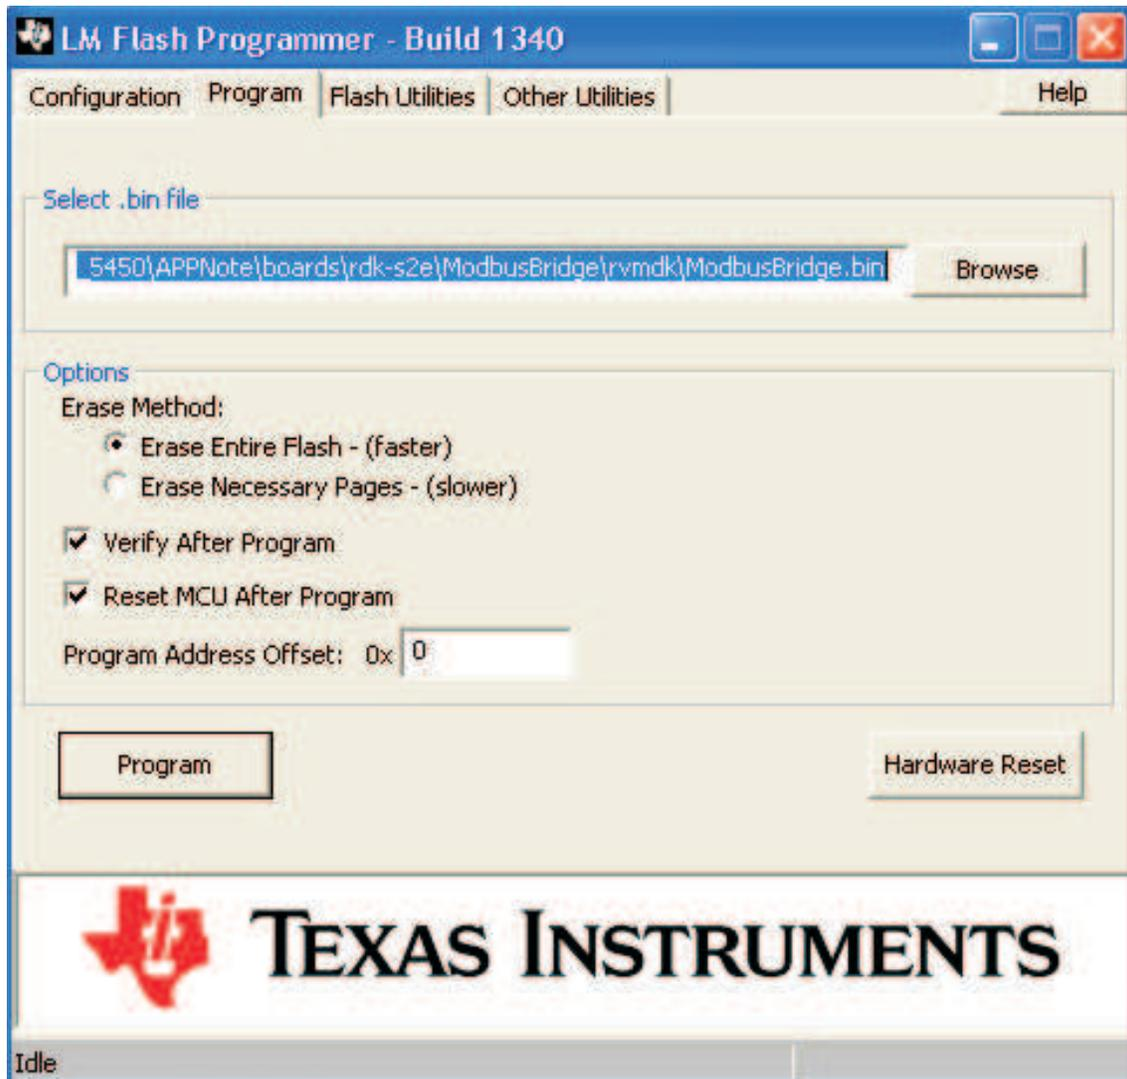

Figure 3. LMFlash Programmer Settings
2. Program the S2E-RDK with *ModbusBridge.bin* in the `\boards\rdk-s2e\ModbusBridge\rvmdk` directory, using the LMFlash programmer utility (see Figure 3).